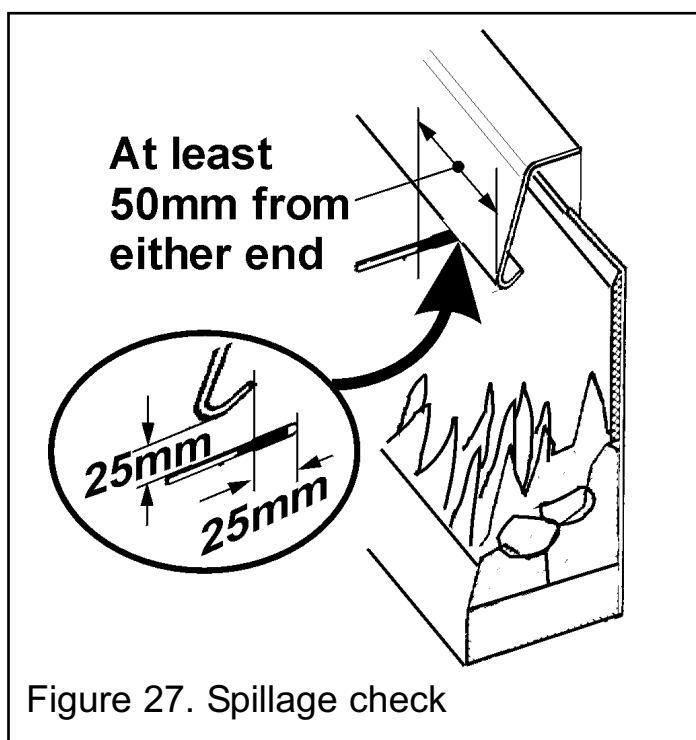

Figure 27. Spillage check
4. Place the smoke match into the appliance canopy (See figure 27).